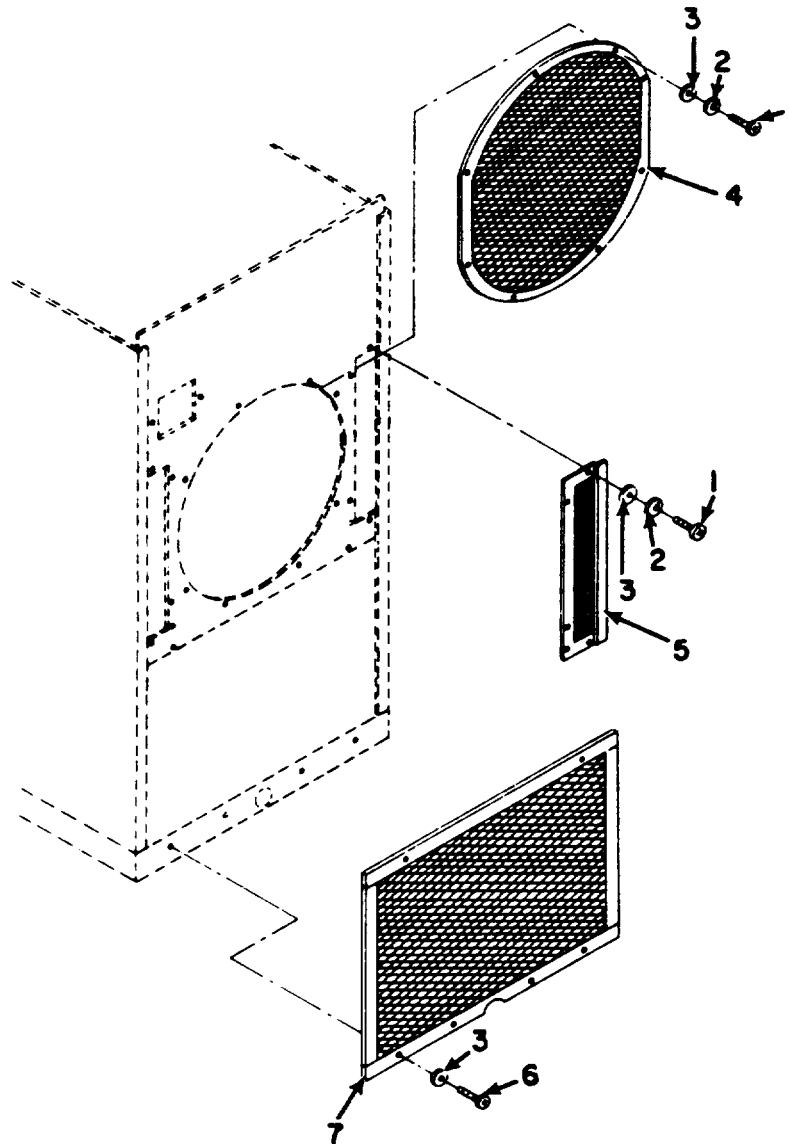

Figure 4-8. Fresh Air Inlet Screen and Condenser Guard.
1. Remove five screws (1), lockwashers (2), and flat washers (3), and fresh air inlet screen (5). See Figure 4-8.